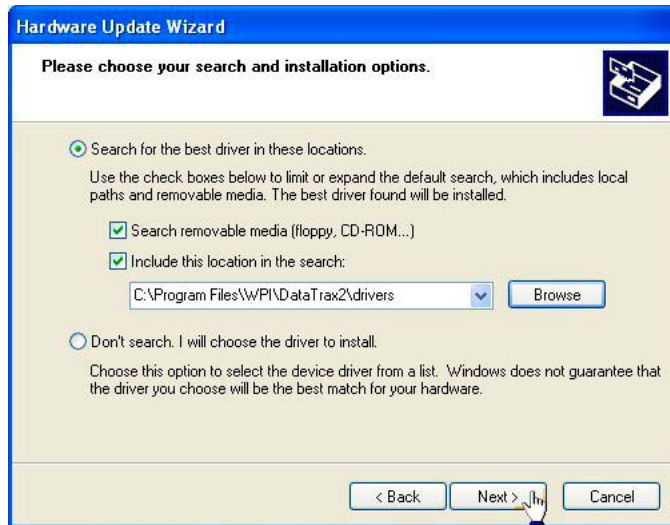

Fig. 62 — Search locations
8. Select the **Install from a list or specific location** radio button, and click the **Next** button. Then, then wizard asks where to search for the install files (**Fig. 62**).